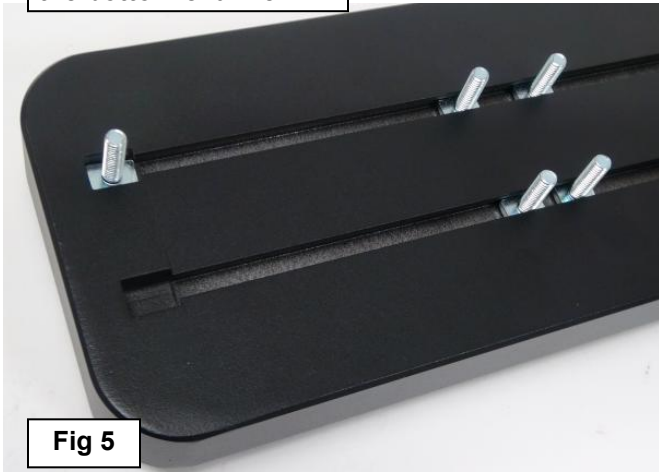

Fig 5
- Select a Running Board. Slip (6)6mm T-bolts into each bottom channel **(Figure 5)**. Carefully position the Running Board onto the (3) Mounting Brackets. **IMPORTANT:** Do not slide, (front to back), the Running Board on the Brackets or damage to the finish may result. Attach the